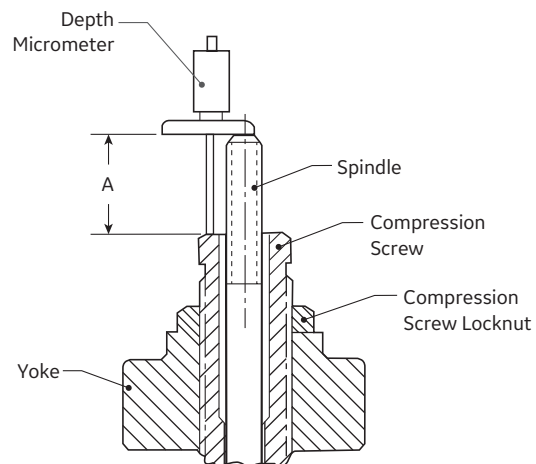

Figure 31: Yoke-Spindle Assembly
19. Next, refer to Figure 31 and establish Dimension A.